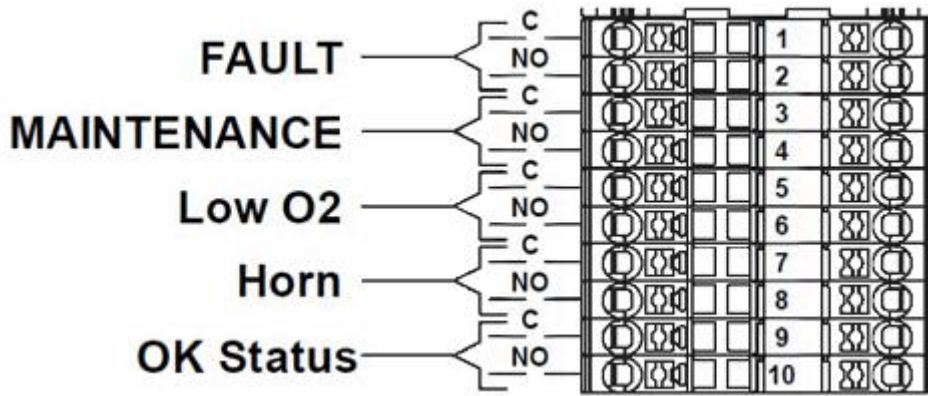

Figure 4- Digital Output
1. The standard OxyPro includes multiple digital outputs for an optional stack light or to communicate with your DCS system. For the outputs available, please refer to Figure 4